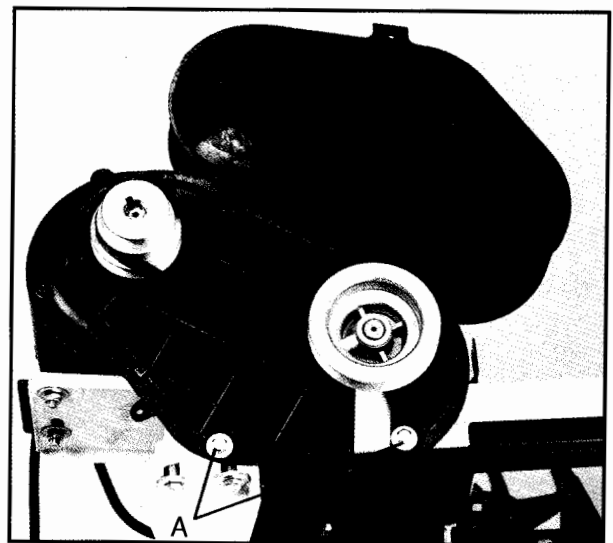

Fig. 2
7. Slide pulley cover around motor shaft and worm gear shaft and fasten to body with two hex cap screws and washers (A, Fig. 2).